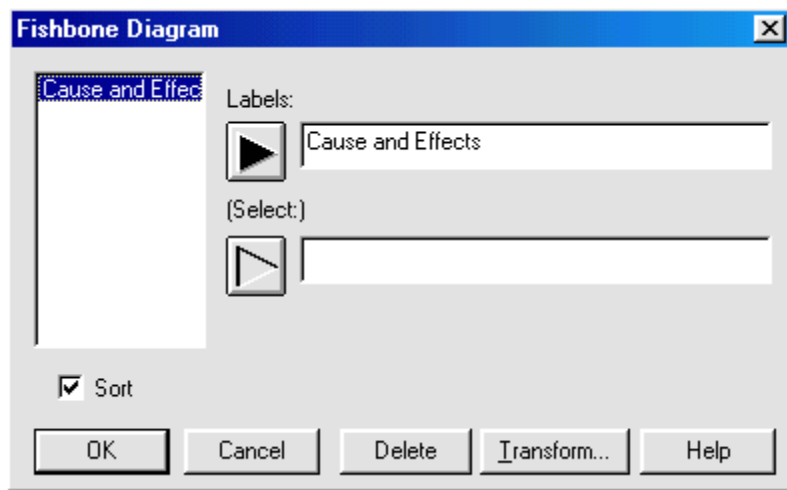

Figure 10-2. Fishbone Diagram Analysis Dialog Box
1. Choose **SPECIAL... QUALITY CONTROL... FISHBONE DIAGRAM...** from the Menu bar to display the Fishbone Diagram dialog box shown in Figure 10-2.